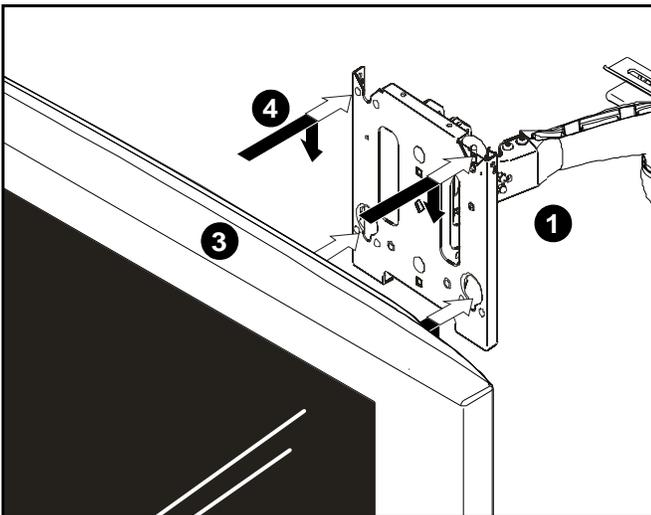
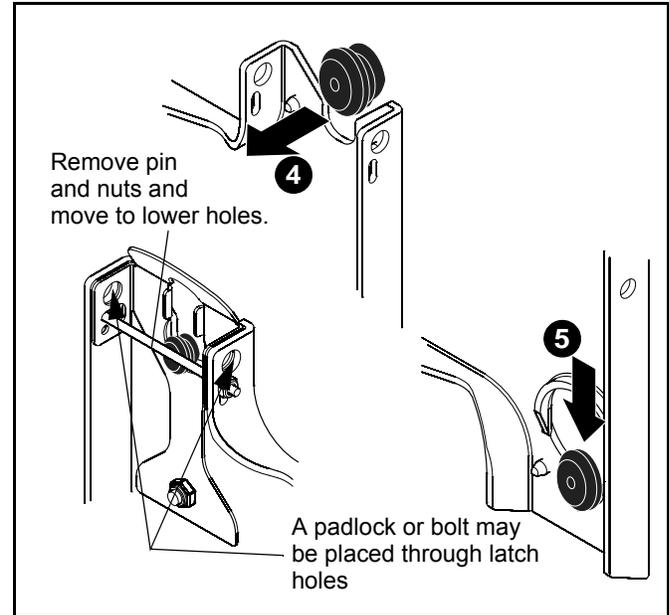

Figure 8
Figure 9
1. Move mount faceplate to extended position by grasping faceplate and pulling outward away from wall. (See Figure 8)
2. While supporting both sides of display, align four mounting buttons on display or interface bracket with four mounting holes in faceplate. (See Figure 8)
3. Lower display into place listening for audible "click" to ensure recessed area of mounting buttons are properly seated in lower area of mounting holes and "click lock" mechanism has engaged. (See Figure 8) and (See Figure 9)
**NOTE:** Holes are provided in the faceplate for use with a padlock or similar locking device, if desired. In addition, the pin and nut may be removed from the upper holes and moved to the lower holes for use as a more permanent locking device. (See Figure 9)